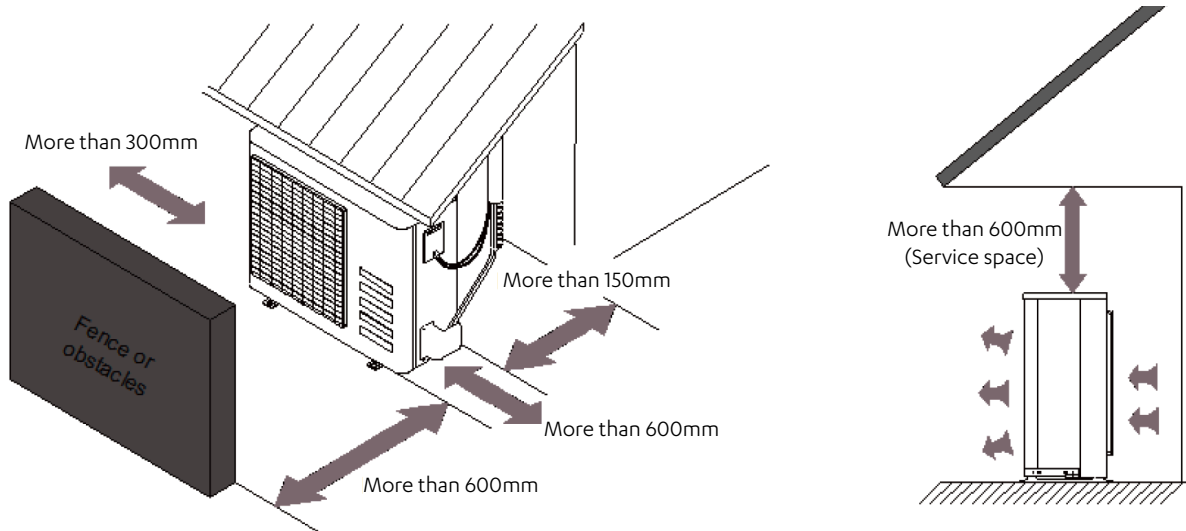

Fig. 6.3
- Meets all spatial requirements shown in Installation Space Requirements (Fig. 6.3)